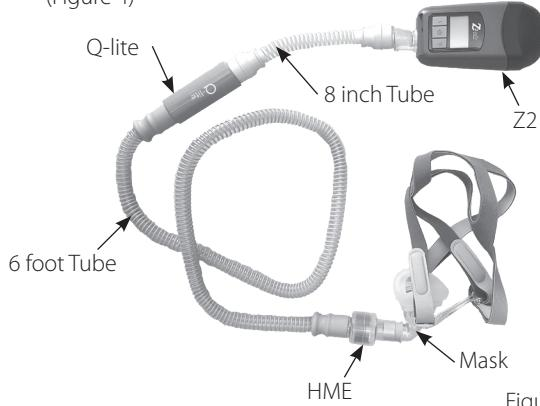

Figure 3
2. Connect the other end of the **8 inch CPAP Tube** to one end of the **Q-lite**. Connect the other end of the **Q-lite** to the **6 foot CPAP Tube**. Connect the end of the **6 foot CPAP Tube** to the **HME** and the **HME** to the **mask**. (Figure 3)